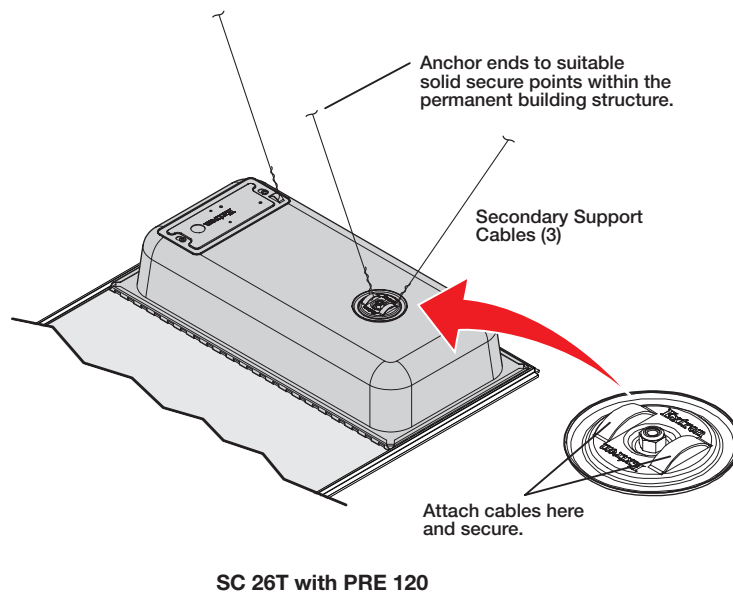

Figure 32. Attaching Secondary Support Lines
- 12. Attach secondary support lines** — If required, attach all of the secondary support lines as shown in figure 32.